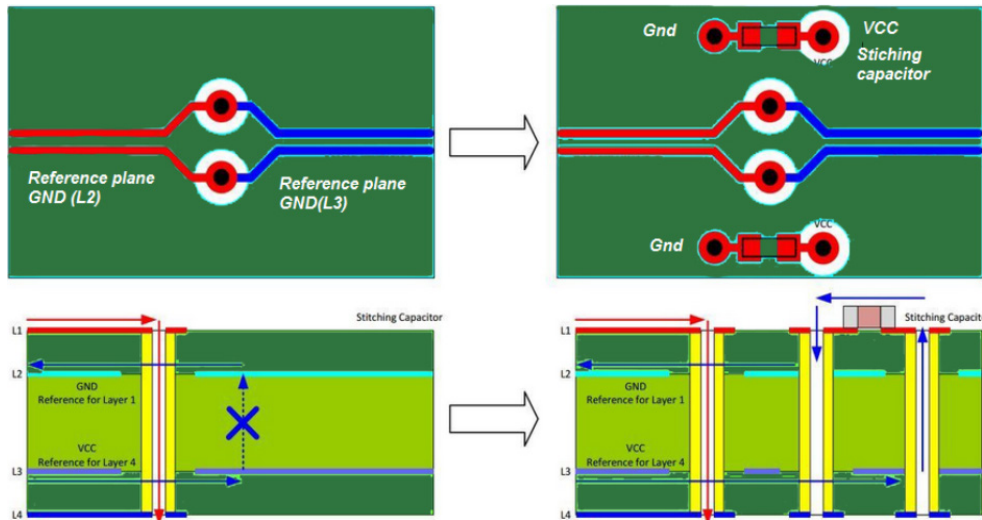

Figure 24. Stitching Via Layout Practices
- Renesas recommends routing a signal across different planes. If this is not possible, implement a stitching capacitor next to the trace to maintain a short return path (see Figure 24).